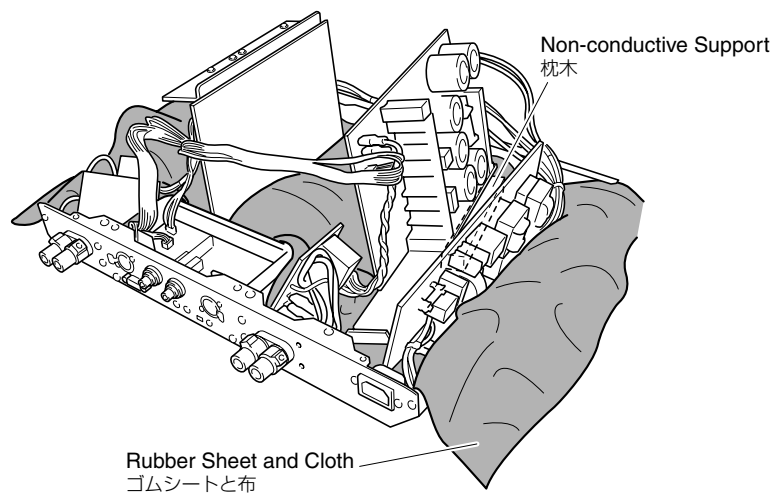

Fig. 6
- Put the Rubber Sheet and a Cloth over the equipment. Then place the P.C.B. upright on the Cloth and check it. (Fig. 6)
- Set the MAIN (L) P.C.B. upright using a non-conductive support, such as wood. (Fig. 6)
- When the FUNCTION (2) P.C.B. and FUNCTION (3) P.C.B. are removed from the chassis, they do not work because their grounding are disconnected. Be sure to connect the ground of FUNCTION (2) P.C.B. and FUNCTION (3) P.C.B. to the chassis respectively with a jumper wire or the like.
- 本機の上にゴムシートと布を敷き、その上にP.C.B.を立ててチェックします。(Fig. 6)
- MAIN (L) P.C.B.は、枕木を使って立てます。(Fig. 6)
- FUNCTION (2) P.C.B.およびFUNCTION (3) P.C.B.をシャーシから取り外すとアースが浮いて動作しませんので、FUNCTION (2) P.C.B.およびFUNCTION (3) P.C.B.のアースをリード線等でシャーシに接続してください。